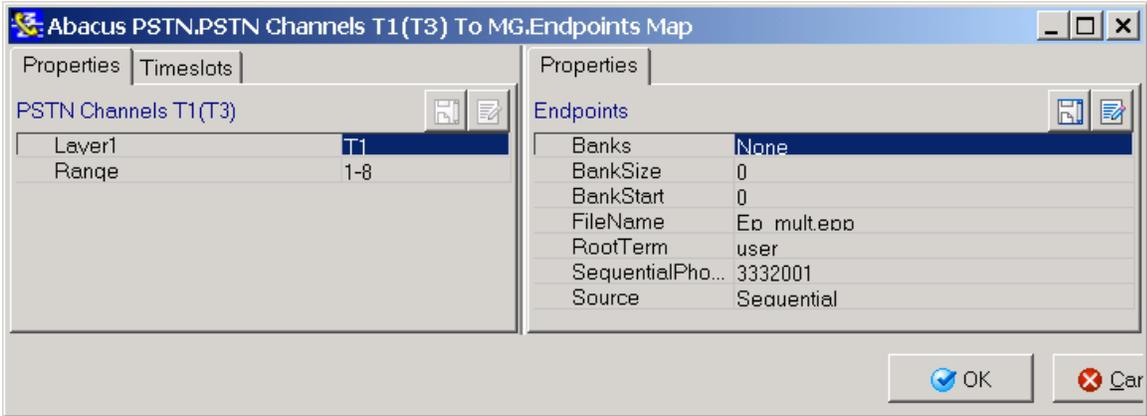
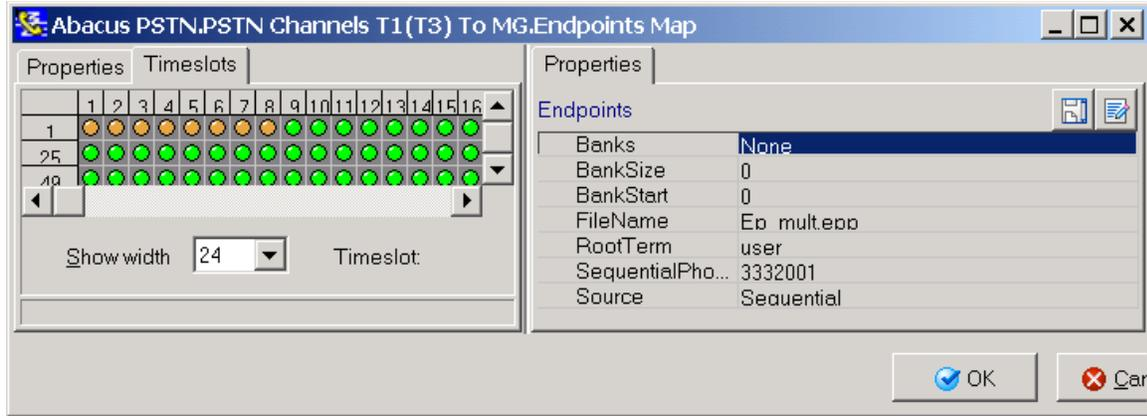

Figure 11. PSTN Properties and Endpoints Properties Panels
Figure 12. PSTN Timeslots and Endpoints Properties Panels
Double-clicking on the edge opens a window with both PSTN and MG endpoints for the edge. The **PSTN** side has two panels, **Properties** and **Timeslots**, and the **MG** side has one panel, Endpoint **Properties**. *Figure 11* shows the PSTN **Properties** and Endpoint **Properties** panels, and *Figure 12* shows the PSTN **Timeslots** and Endpoints **Properties** panels.
- **PSTN Properties Panel** (left side of *Figure 11*)
In the example in *Figure 11*, you can change the physical interface from T1 to E1. The total number of channels in a range can be changed from 1-8 to any other range from available TDM slots
- **PSTN Timeslots Panel** (left side of *Figure 12*)
- **Endpoint Properties Panel** (right side of *Figure 11* and *Figure 12*)